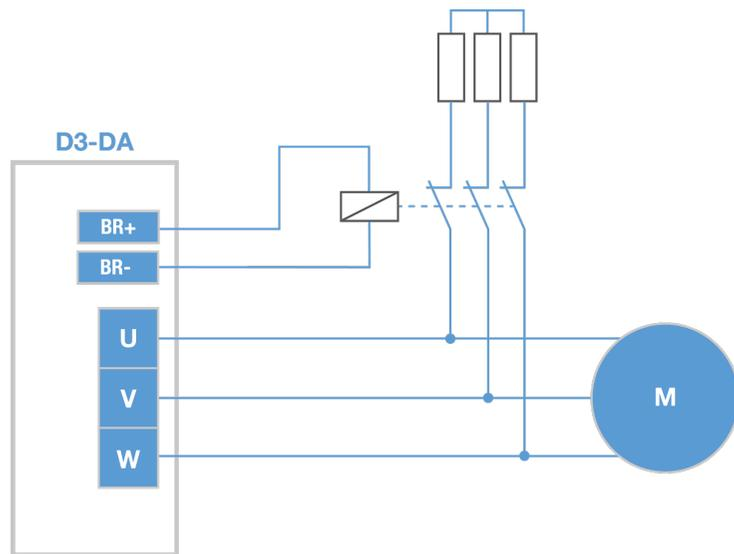

Fig. 6.16: Brake contactor
A three-phase load resistor can be connected directly to the motor terminals via a braking contactor in order to brake a motor quickly in case of a power failure: see Fig. 6.16: Brake contactor. The brake contactor is "normally closed" (nc) and is actuated by the output function **P 2318[0] - MPRO_OUTPUT_FS_MOTBRK = RELAY (6)**. The resistors are defined on the basis of the maximum possible speed and the permissible currents.